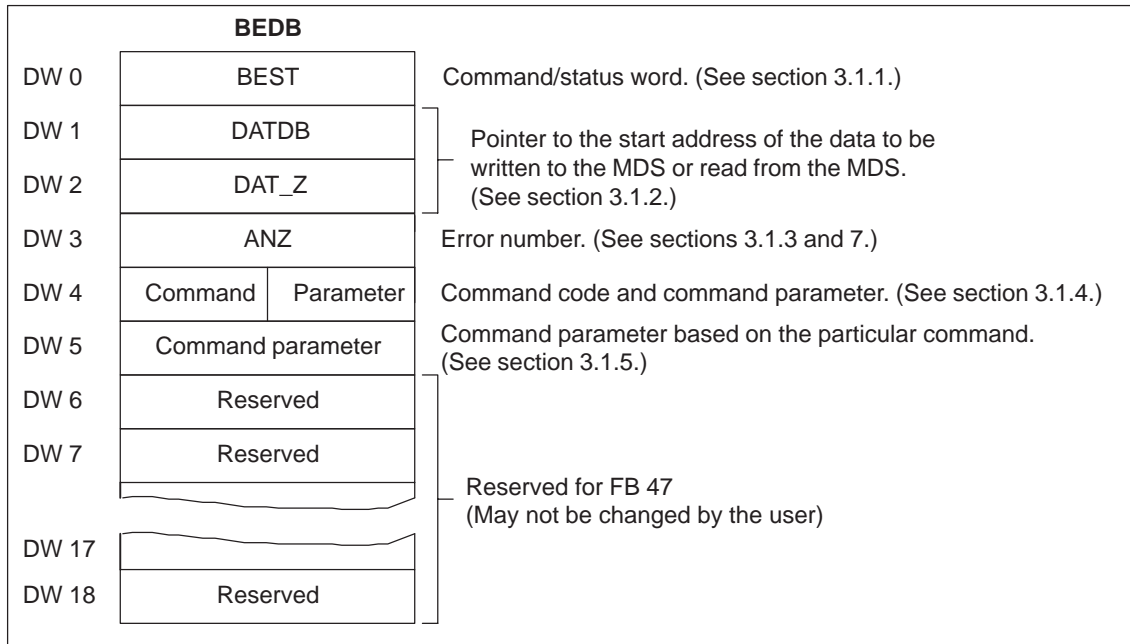

Figure 3-1 Layout of the BEDB
**Layout** Figure 3-1 shows the layout of the BEDB command data block.